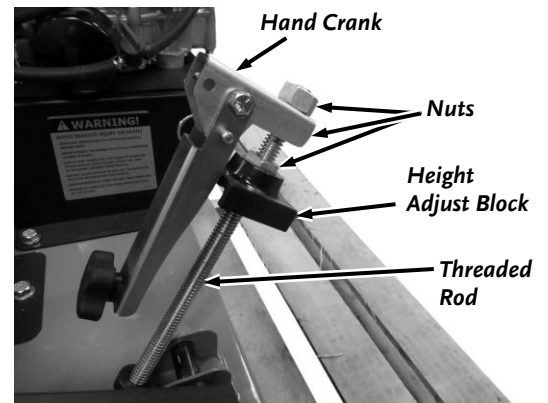

Figure 7
3. Remove the three Nuts, Hand Crank and Height Adjust Block from both threaded Rods (**Figure 7**).